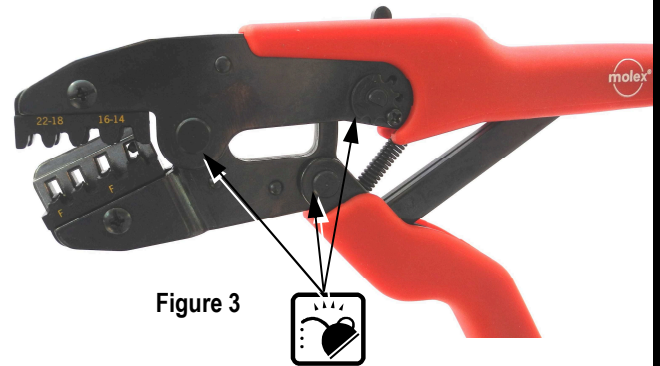

Figure 3
3. Make certain all pins; pivot points and bearing surfaces are protected with a thin coat of high quality machine oil. Do not oil excessively. Light oil (such as SAE30W oil) applied at the oil points, shown in Figure 3, every 5,000 crimps or 3 months, is recommended.